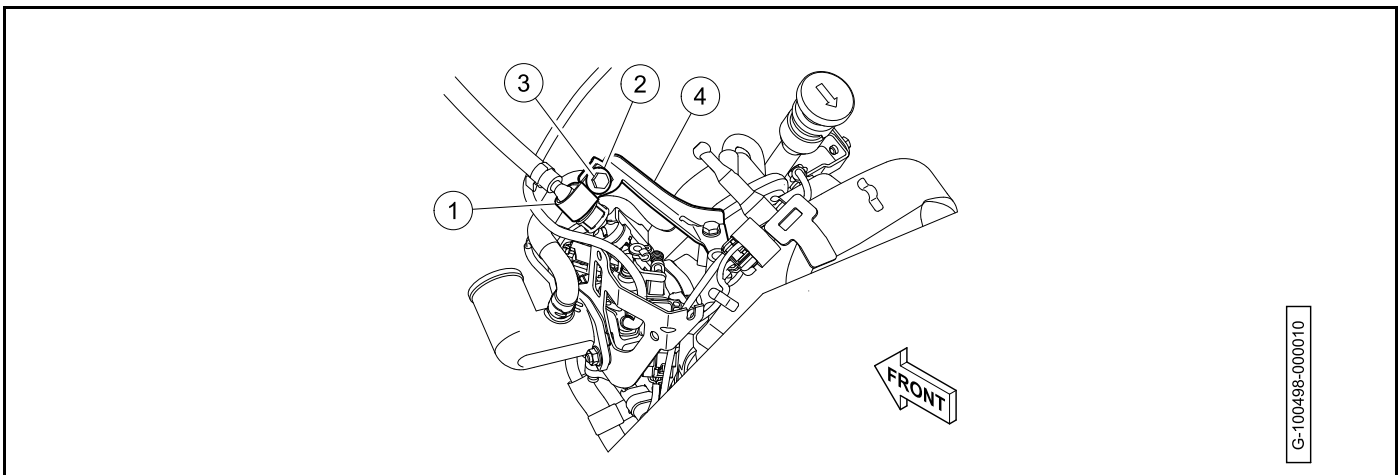

Figure 22-16
5. Install the P-clamp (1), washer (2), and bolt (3) onto the fuel line support bracket (4) (**Figure 22-16**). Tighten the bolt to 93 to 111 in·lb (10.5 to 12.5 N·m).